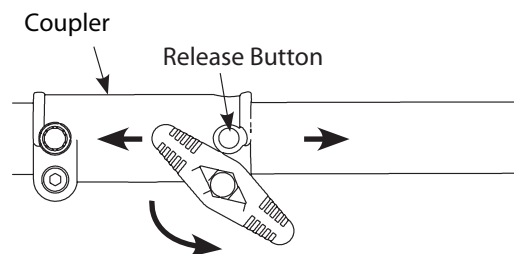

Fig. 12
1. Turn the knob counterclockwise to loosen (Fig.12).
2. Press and hold the release button (Fig.12).
3. While firmly holding the upper shaft housing, pull the cutting attachment or add-on straight out of the coupler (Fig.12).